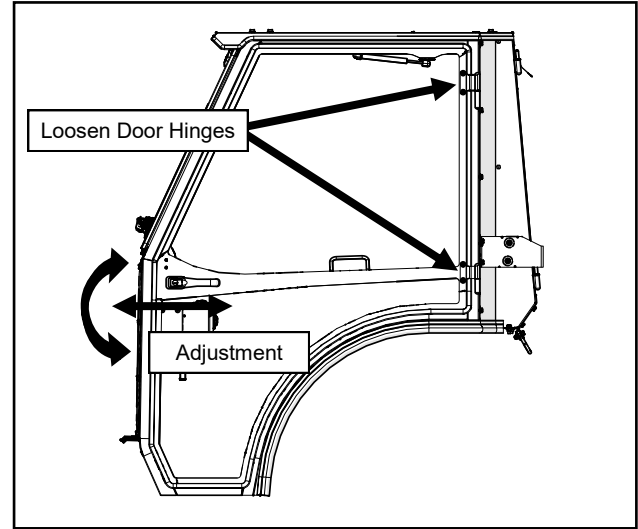

Fig. 23.2a (Door Hinge Adjustment)
**23.2** Loosen the door hinges to allow for adjustment later. Hang the left door on the hinges. While lifting up and forward on the door handle, line up the door latch with the striker pin and carefully attempt to latch. You should be able to hear 2 clicks as you slowly engage the latch on the pin. If the latch is too far forward or back to latch on the pin, adjust as shown. See Figures 23.2a through c. Then retighten and latch.